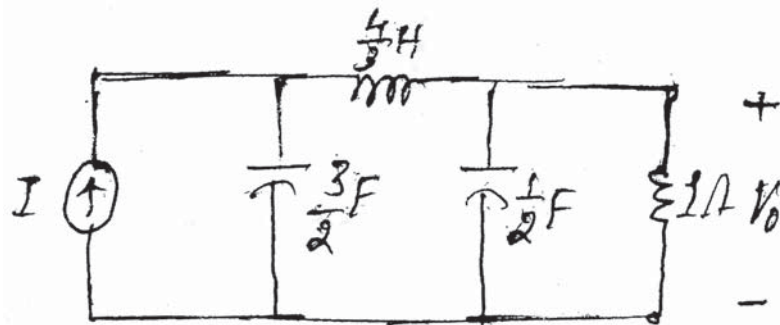

Fig. 7
- c) Consider the low pass filter of Fig. 7. Convert this into a Band pass filter with 1 ohm impedance level with Band width (B) =  $6 \times 10^4$  r/sec. and the band pass is centered at  $\omega_0 = 4 \times 10^4$  rad/sec. 5